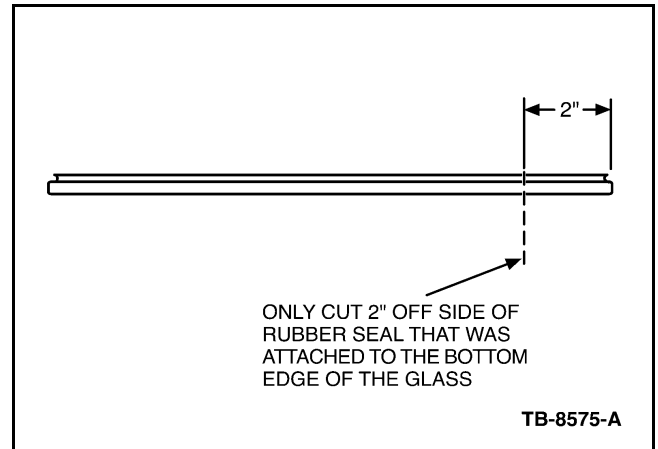
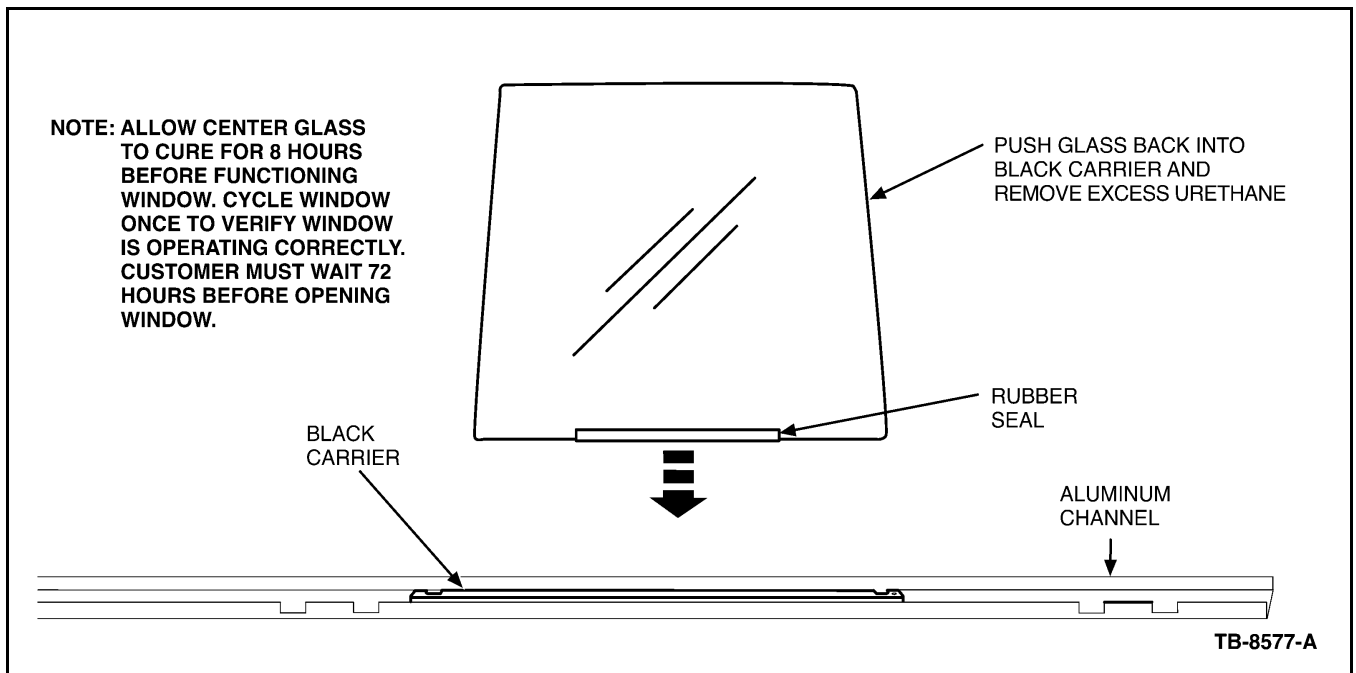

Figure 9 - Article 06-15-5
Figure 10 - Article 06-15-5
19. Cut 2" (5 cm) from center glass seal (Figure 9) and reapply seal to bottom of the center glass centering it from side to side (Figure 10).
20. Center glass in carrier and push down into carrier until glass/seal bottoms out in carrier (Figure 10).